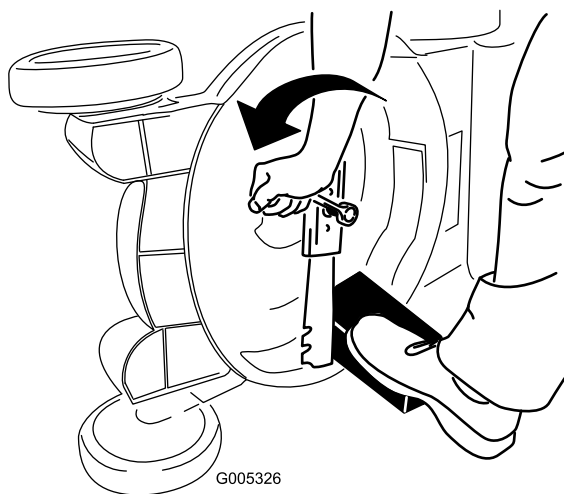

Figure 45
3. Use a block of wood to hold the blade steady (Figure 45).
4. Remove the blade, saving all mounting hardware (Figure 45).